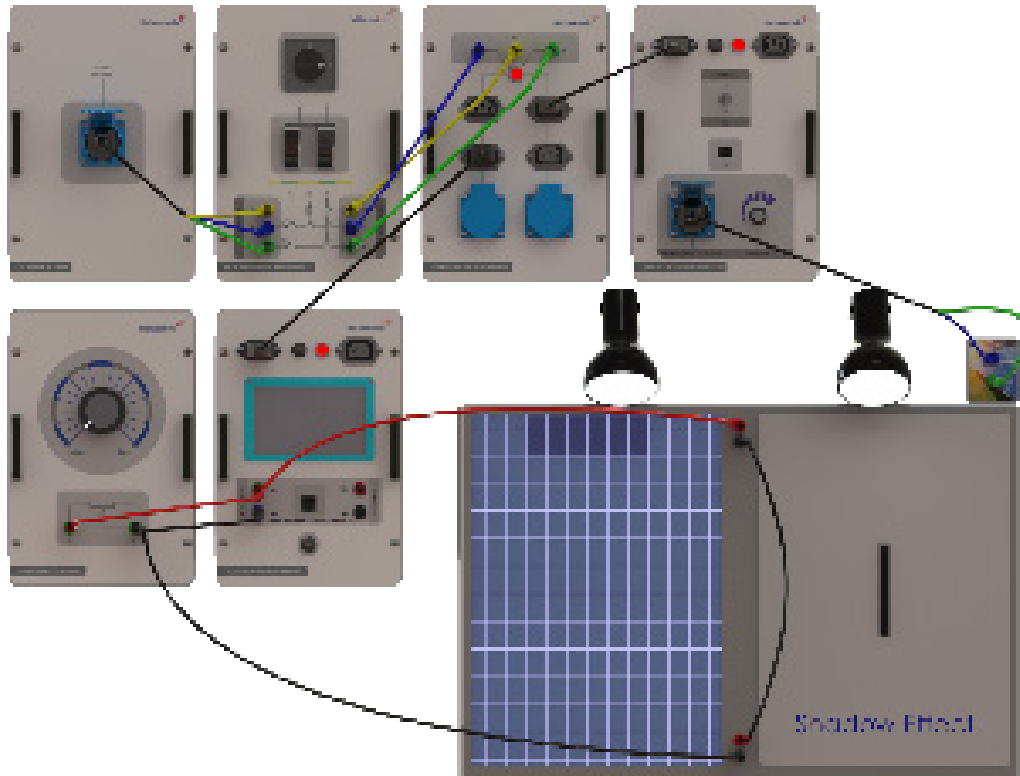

Figure-2
- 7) Use the shadowing device to shadow panel-2 as shown in figure-2. Record in chart-1 the value observed on the voltmeter placed on the AC/DC Measurement Module under this circumstance.